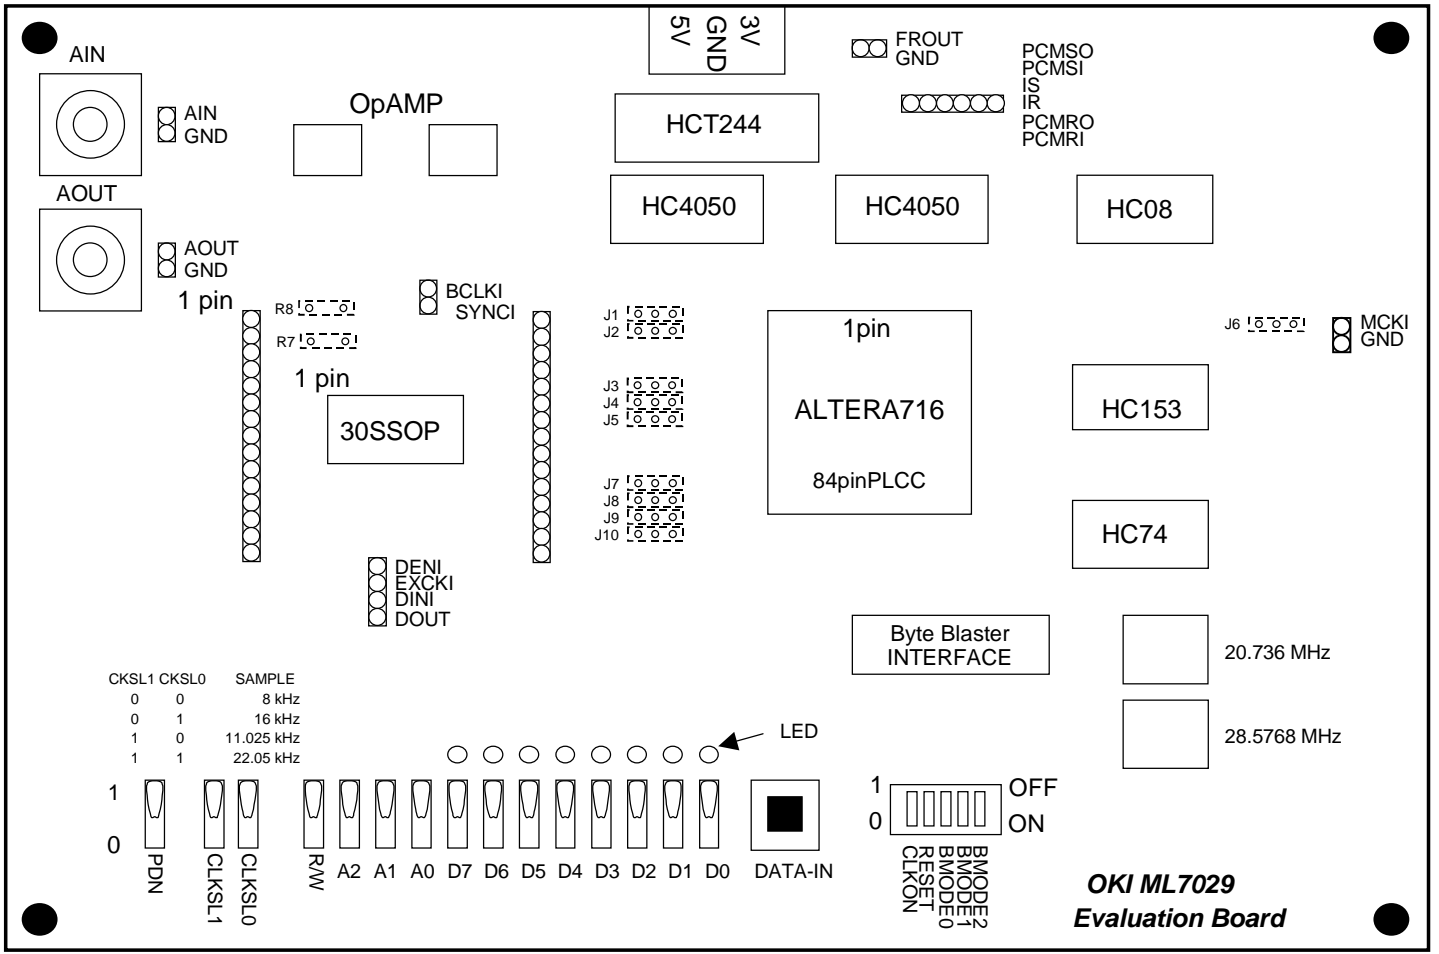

Figure 3 Evaluation Board PC board layout diagram
- Evaluation Board PC board mounting diagram Figure 3